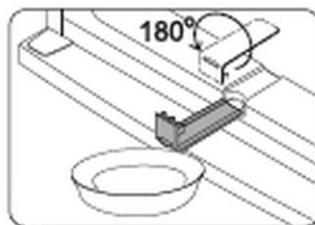

Fig. 7
1. Remove the condensation water collection trough, rotate it by 180° and re-suspend it (Fig. 7).